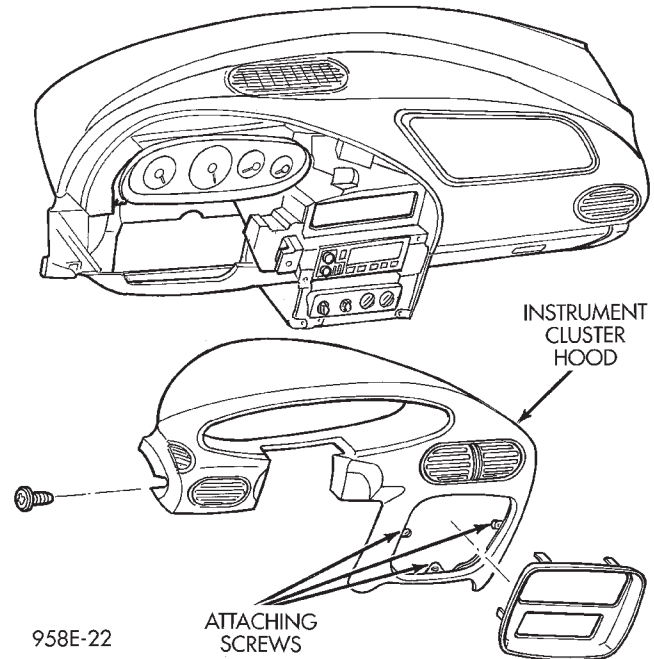

Fig. 7 Instrument Cluster Hood
- (4) Remove instrument cluster hood (Fig. 7).